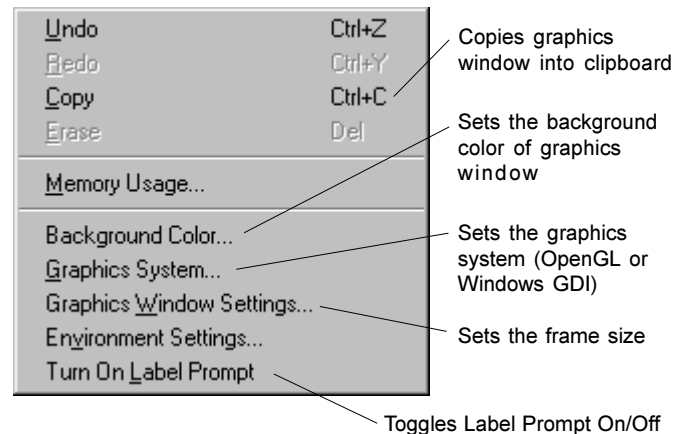

Figure 2: New Edit Menu Items
- Background color for PC Windows version can be set through the dialog box (see Figure 2).
The first time the ADINA User Interface (AUI) is started, the program will use the OpenGL mode if it is supported. Otherwise, Windows GDI will be used. The user can select which graphics system to use in the menu Edit > Graphics System (Figure 2). The next time the AUI is activated, it will use the last graphics system setting.
In ADINA 7.4, the program automatically inserts the next highest label without prompting the user. However, if for some reason the user wants to get the prompt for the label number, he can toggle on the option in the menu Edit > Turn On Label Prompt (Figure 2).